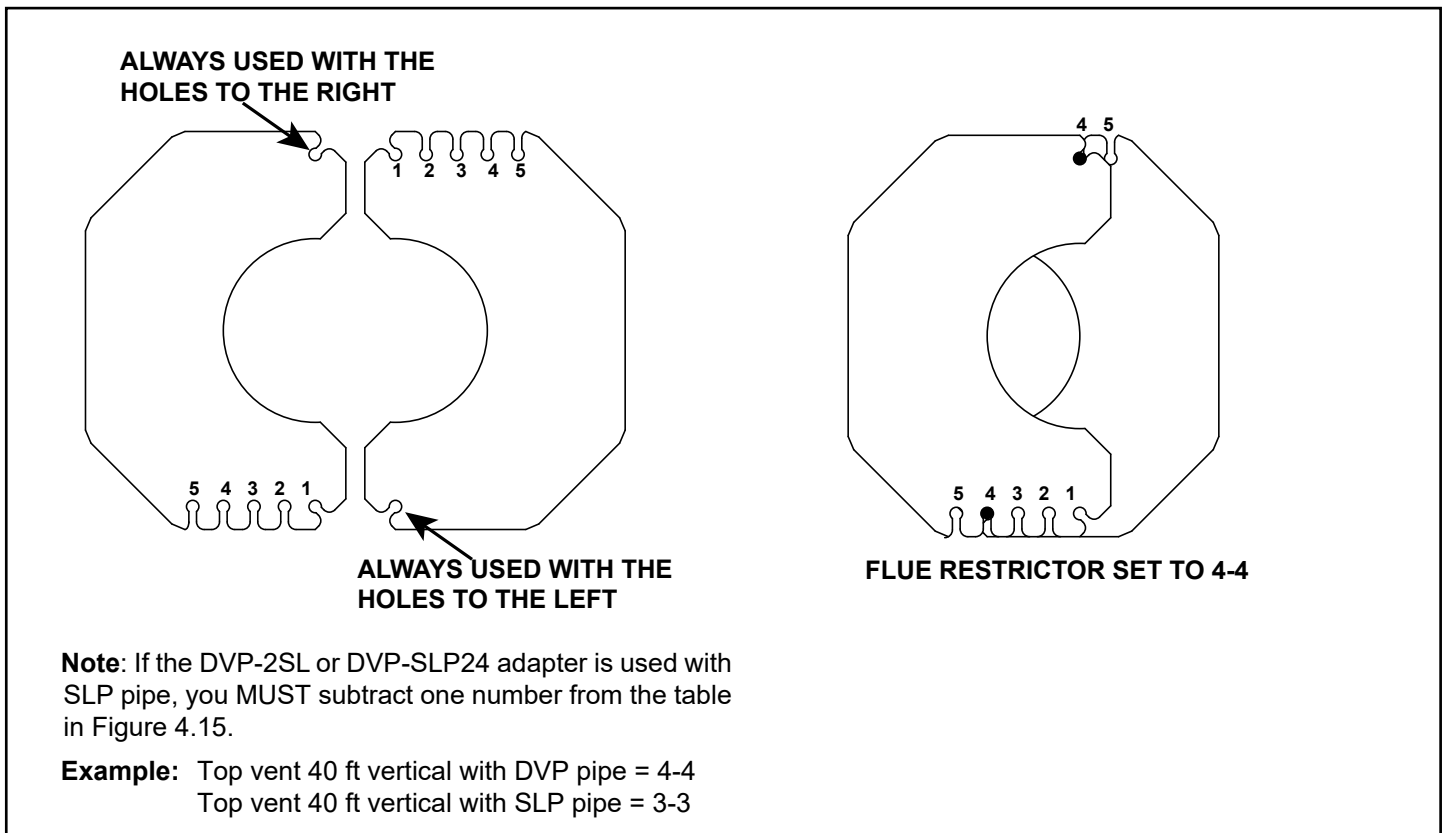

Figure 4.16 Setting the Flue Restrictor
4. Center the two flue restrictor pieces on the vent at the setting selected in step 3 and secure in place by using two self-tapping screws. See Figure 4.16.